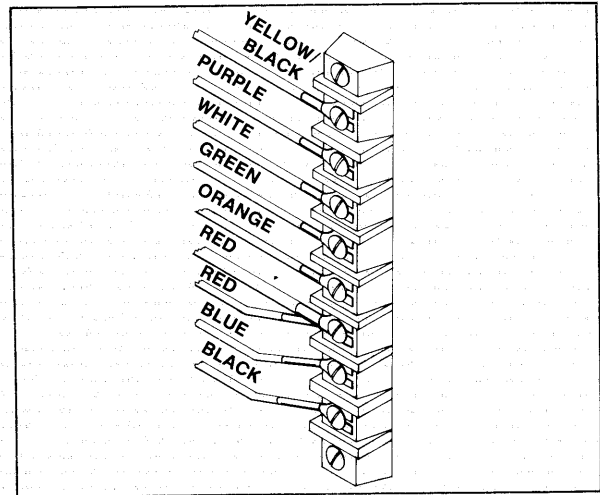

Figure 6 – Connecting Lead Wires to Terminal Block
- B. Connect lead wires to terminal block as shown in figure 6.